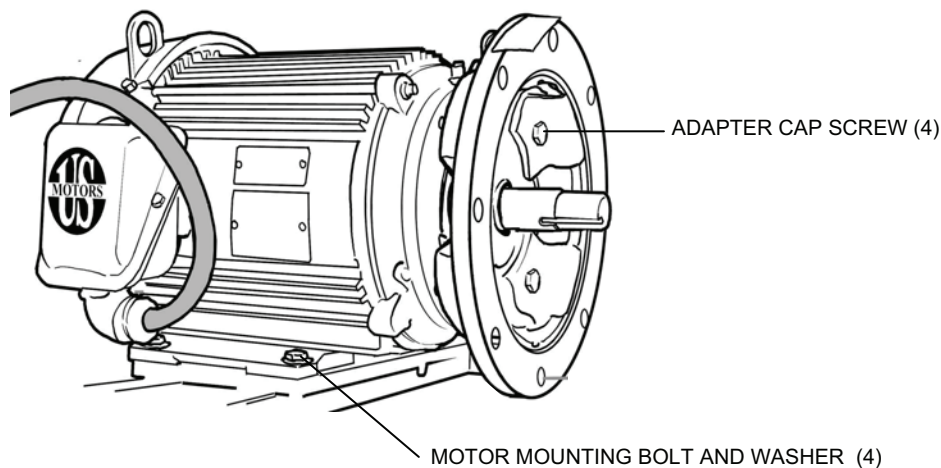

Figure 6. MF Feed Pump Motor Removal.
3. Remove the four cap screws that hold the adapter to the motor (see Figure 6). Remove and retain the adapter.
4. Remove the four bolts and washers that hold the motor to its base and remove the motor (see Figure 6).